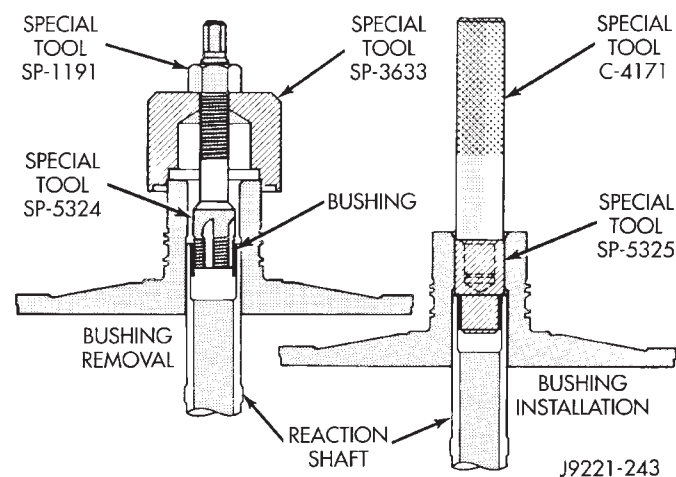

Fig. 51 Replacing Reaction Shaft Support Bushing
3633 and 5324 (Fig. 51). **Do not clamp any part of reaction shaft or support in vise.**
(3) Turn remover tool hex nut down against remover cup to pull bushing from shaft. Clean all chips from shaft after bushing removal.
(4) Lightly grip old bushing in vise or with pliers and back remover tool out of bushing.
(5) Assemble Bushing Installer Tools C-4171 and SP-5325 (Fig. 51).
(6) Slide new bushing onto Installer Tool SP-5325.
(7) Position reaction shaft support upright on a clean smooth surface.
(8) Align bushing in bore. Then tap bushing into place until Bushing Installer SP-5325 bottoms.
(9) Clean reaction shaft support thoroughly after installing bushing.